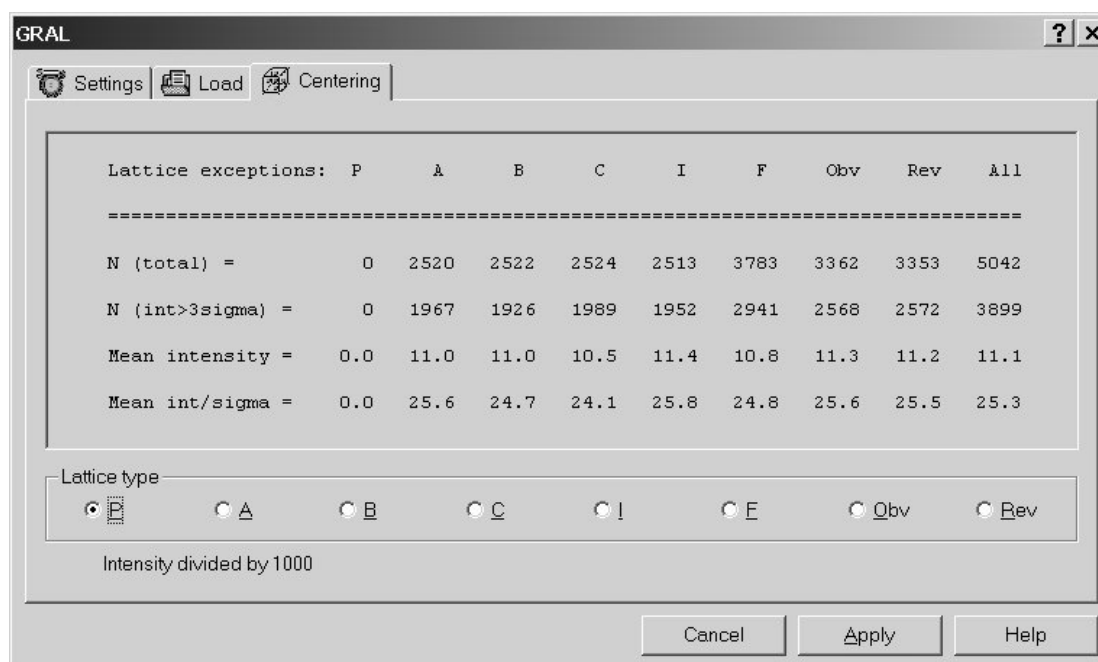

Figure 6.5.34 Screenshot of the GRAL plug-in Centring Window
- Next the lattice centring is determined. Figure 6.5.34 shows a table of statistics which allows the user to check the plug-in's selection. If the user wishes to choose an alternative then the relevant "radio box" can be selected by clicking on it and then **"Apply"** can be clicked to move to the next step. Here we can see that the table of statistics reflects the P(rimitive) lattice selected by GRAL.